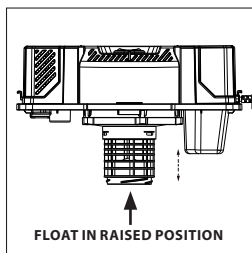

FIG. 5
- This wet/dry vac is equipped with a float mechanism which will rise automatically to cut off the airflow when the liquid in the tank reaches a predetermined level. When this happens, turn off the vac, unplug the power cord, and empty the dust tank. You will know that the float has shut the airflow off because the suction ceases and the motor noise becomes higher in pitch due to increased motor speed. The liquid capacity may vary with the rate of pickup. (Fig. 5)